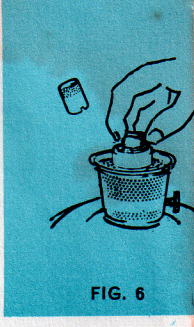

FIG. 6
5. Do not clean the wick unless it has a formation of carbon crust on it. When it needs cleaning, remove gallery assembly and turn wick right down—don't force wick winder. Take out flame spreader (106) from burner centre tube. Put the wick cleaner (111) in its place (fig. 6)—making sure it is the right way up (the trade mark "Aladdin" should be uppermost). Turn the wick cleaner to the right with one hand and slowly turn the wick up with the other. Maintain a *gentle* downward pressure on the wick cleaner to keep it level on the flange of the outer wick tube. When the rising wick touches the cleaner, black carbon will appear through the two gaps in the cleaner. This will soon stop and your wick will be smooth and properly shaped for further use. After cleaning the wick see that no dirt or fluff is collecting in the flame spreader—the outer wick tube—the burner base and in the gap at the bottom of the chimney. All air holes must be kept clear and free from dirt and fluff, otherwise the burner will not work properly. If necessary, all these parts can be washed in warm, soapy water, but don't wash the burner base with the wick in—this is best done when the wick is changed. When reassembling the burner parts make sure this is done correctly.